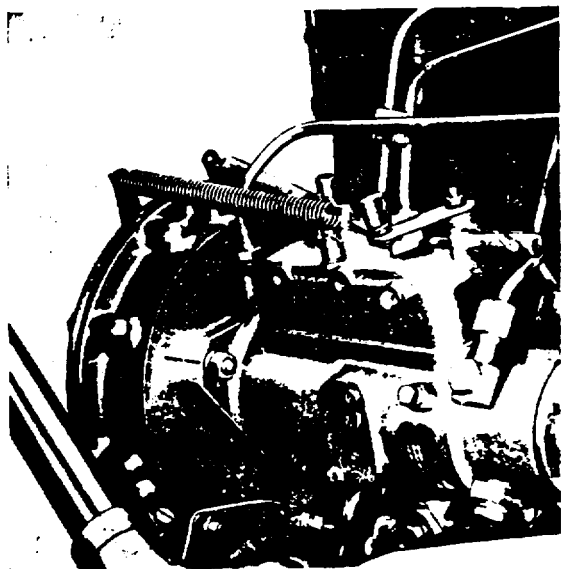

Fig. N.9.
2. Position the pump so that the scribed line on the pump flange and the mark on the timing case are in alignment (see Fig. N.9). To check accuracy of scribed line on rear of timing case, this may be ascertained in accordance with the instructions for marking a new timing case as given on Page K.4. Fit the plain washers, spring washers and secure the pump to the timing case with the three nuts.
2. Ensure that the fuel pump is correctly fitted with the scribed line on the mounting flange coinciding with the mark on the back of the timing case cover (see Fig. N.9).